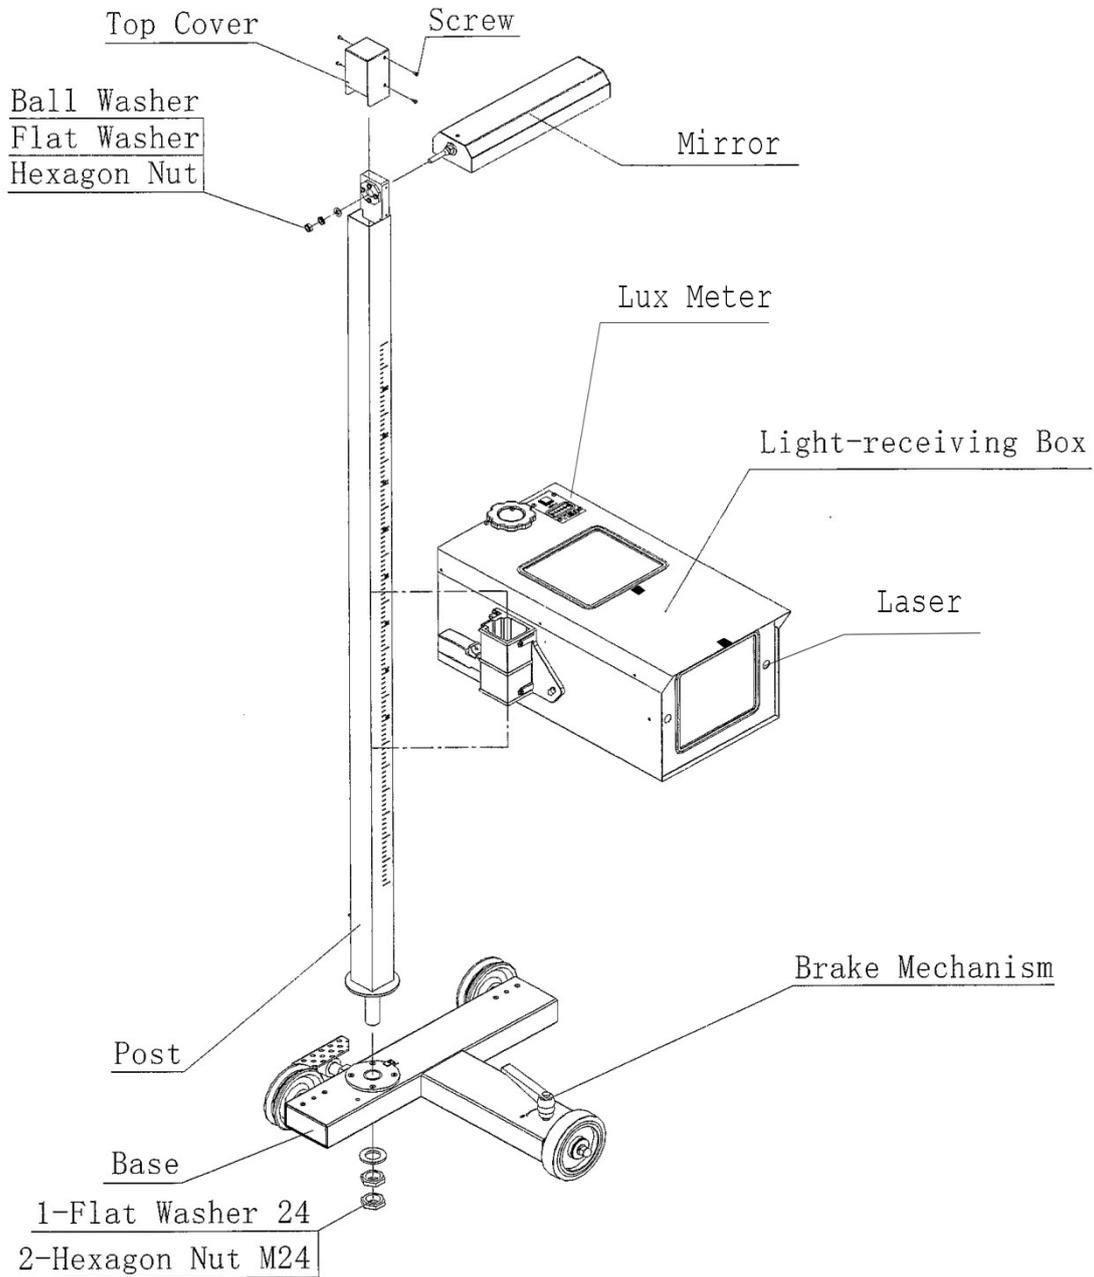

Fig.1
7. Construction and Components (Fig.1)